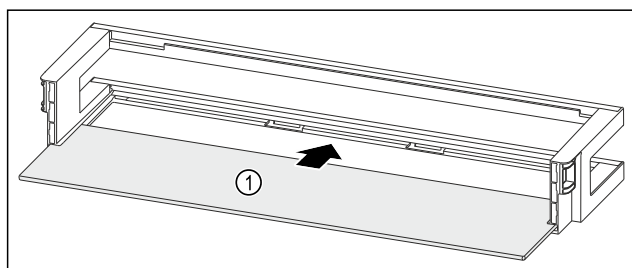

Fig. 204 Door rack with shelf
- Push the shelf Fig. 204 (1) into the side recesses.